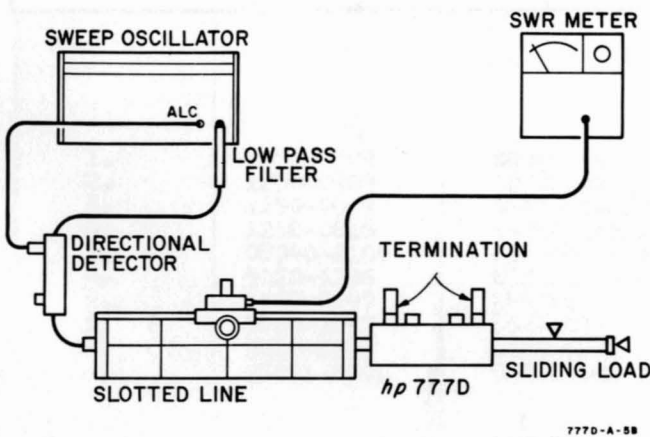

Figure 9. SWR Check
- a. Set up equipment as shown in Figure 9.